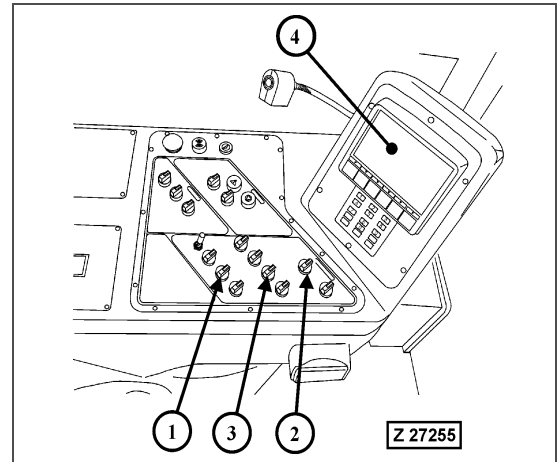

Fig. 3-213
If repairs under the above conditions have been carried out it is necessary to reset the control circuit of the lubrication system by actuating the rotary switch (2), Fig. 3-213 for a full lube cycle.